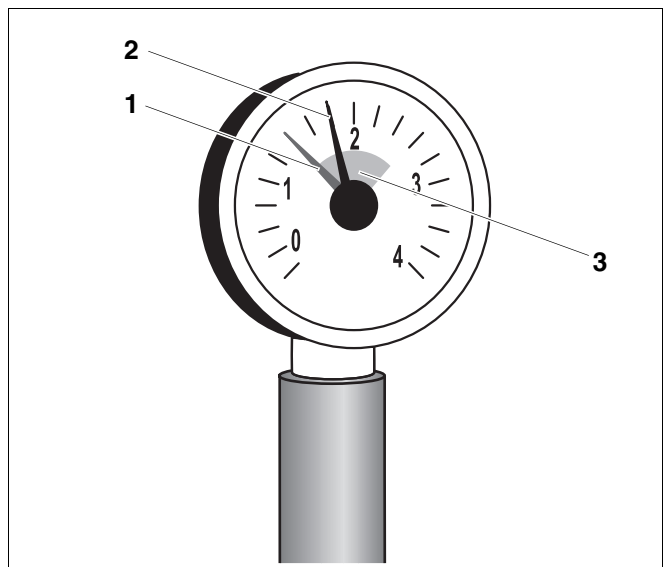

Fig. 51 Pressure gauge for sealed systems
On sealed systems the pressure gauge needle (Fig. 51, **item 2**) must be within the green range (Fig. 51, **item 3**). Set the red needle (Fig. 51, **item 1**) on the pressure gauge to the required system pressure.
The water pressure in the system is too low, if the pressure gauge needle falls below (Fig. 51, **item 2**) the green range (Fig. 51, **item 3**). You then need to re-fill the heating system with make-up water (see chapter 3 "System start-up", page 33).